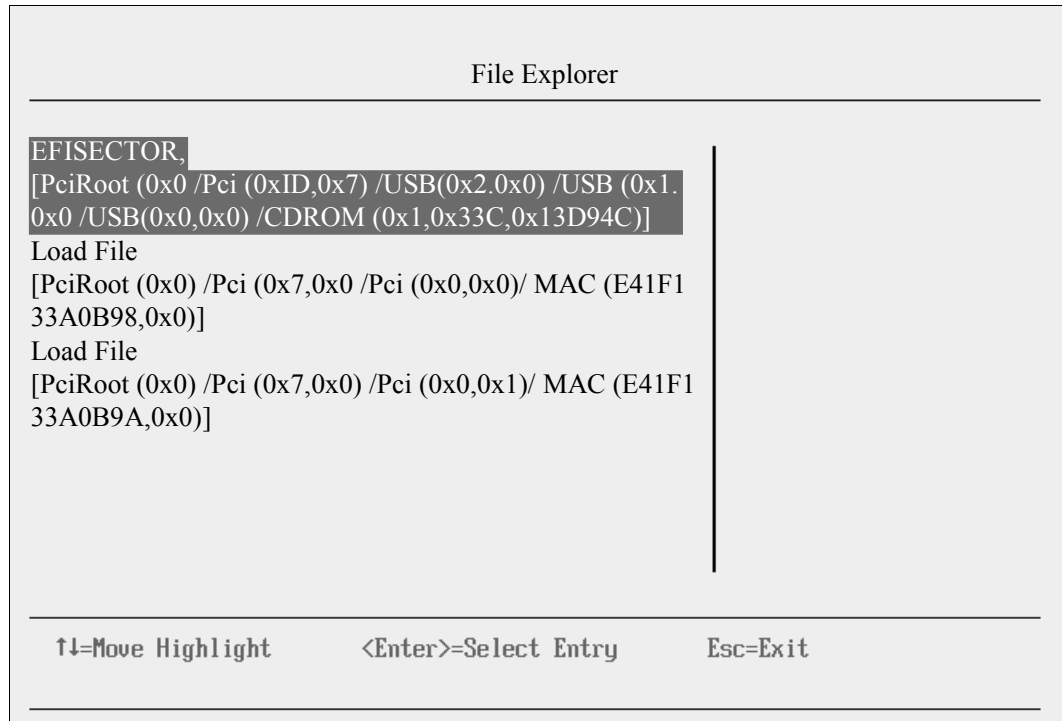

Figure 9-34 Selecting the CD
4. In the File Explorer panel (Figure 9-34), select **EFI**SECTOR and the associated information and then press Enter.